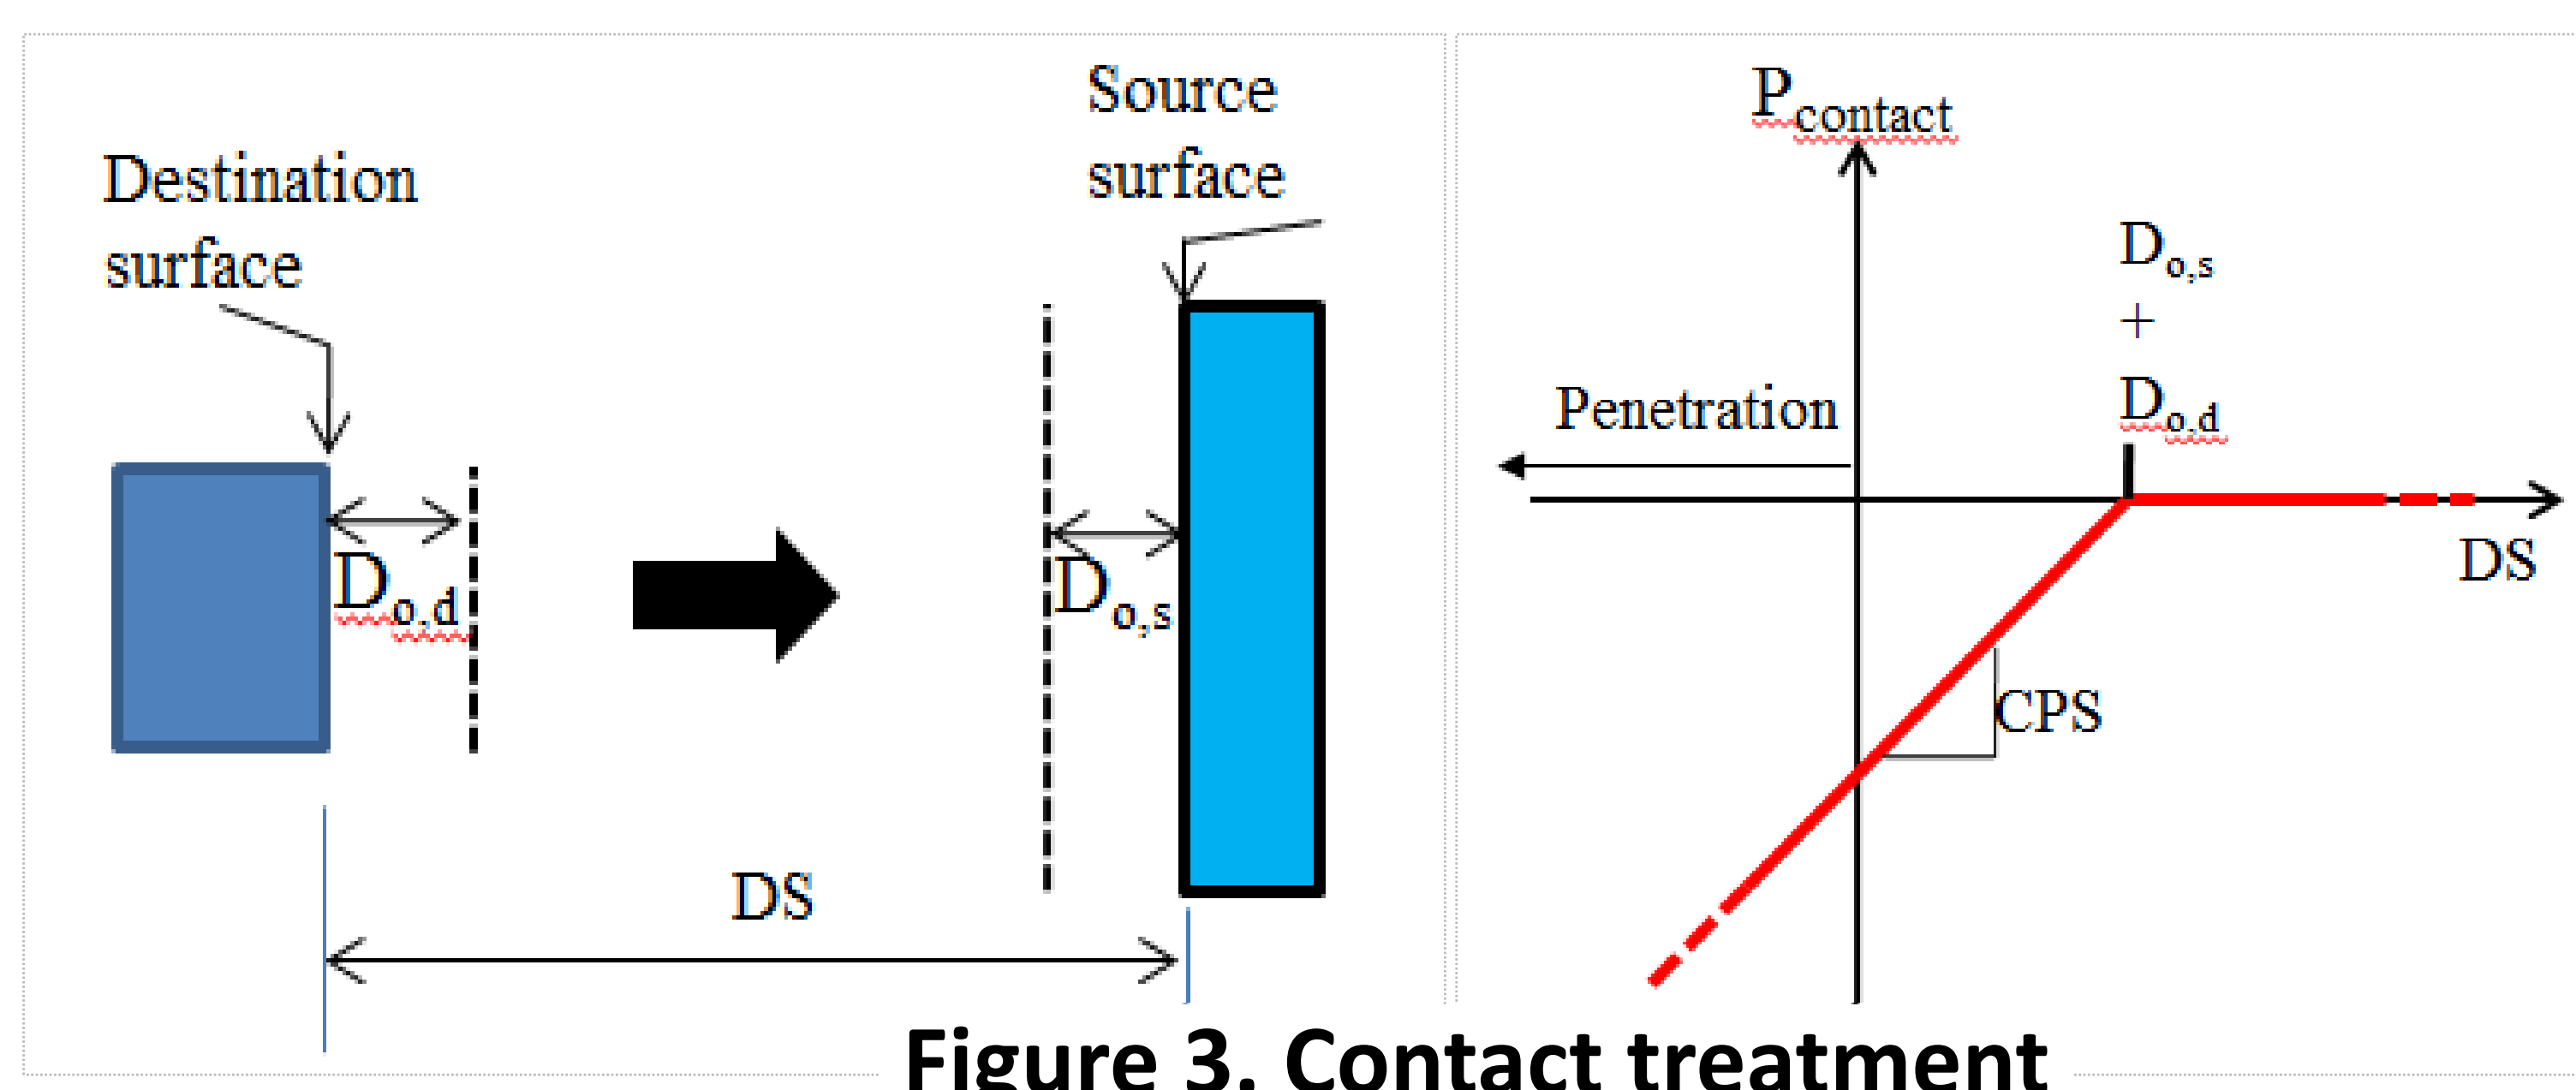
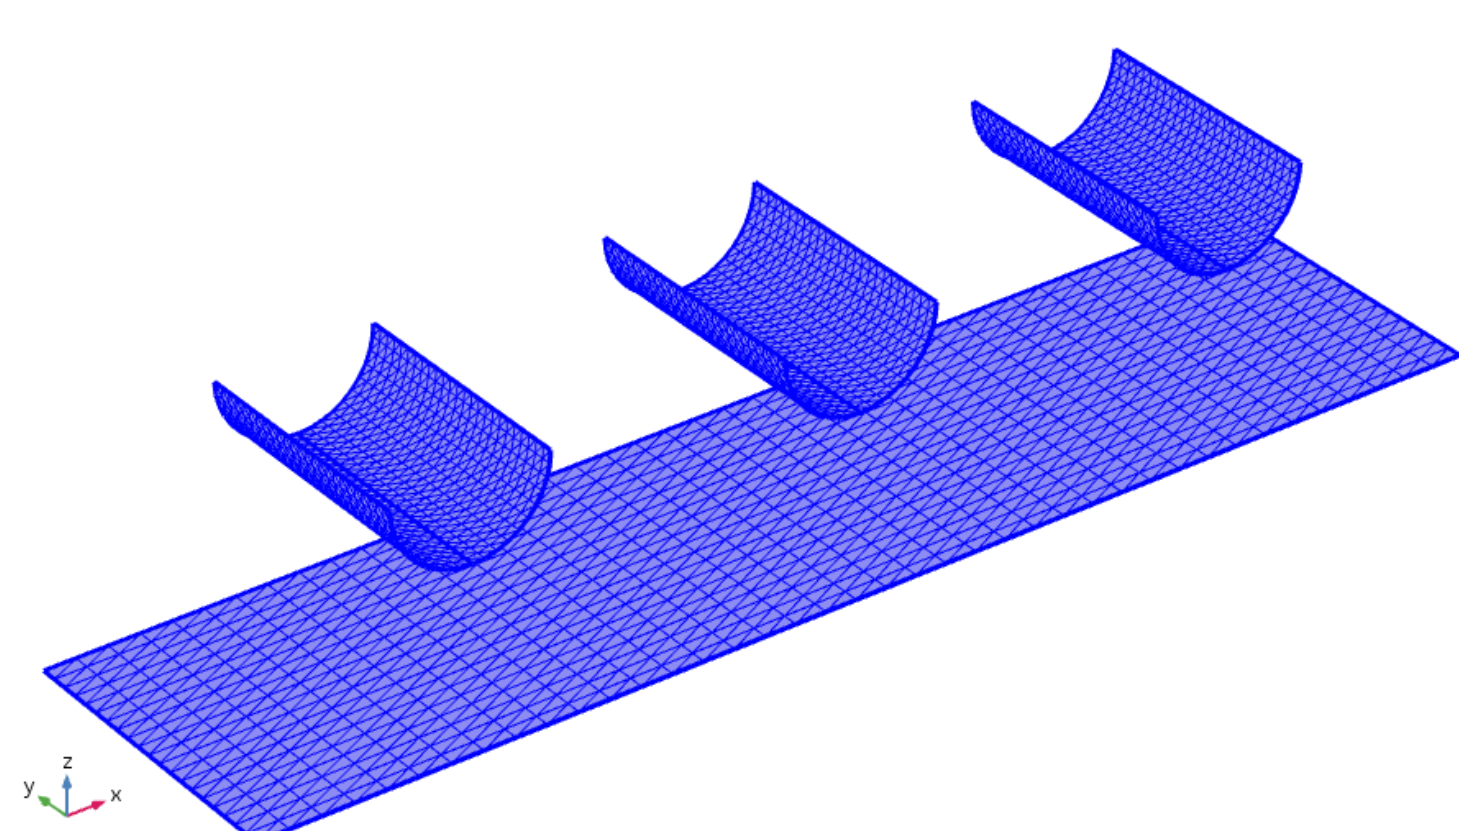

Figure 3. Contact treatment
Figure 4. Definition of contact pair and meshed contact surfaces using “Mapped” and “Convert” nodes
Penalty method is applied for contact treatment. Figure 3 shows contact checking and contact pressure calculation.
**Results:** Figure 3 shows the simulated results of piston with rigid connectors, which well represent the joint connections. Figure 4 shows, using penalty method, COMSOL Multiphysics can well predict virtual structures w/ contact.